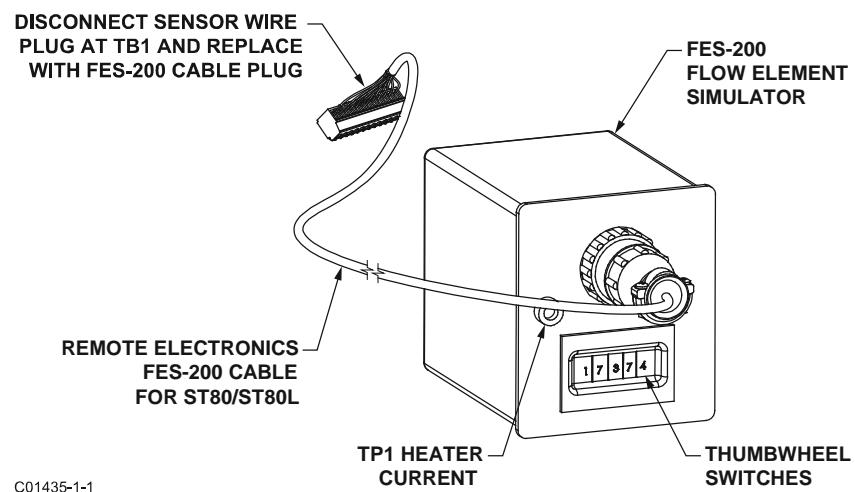
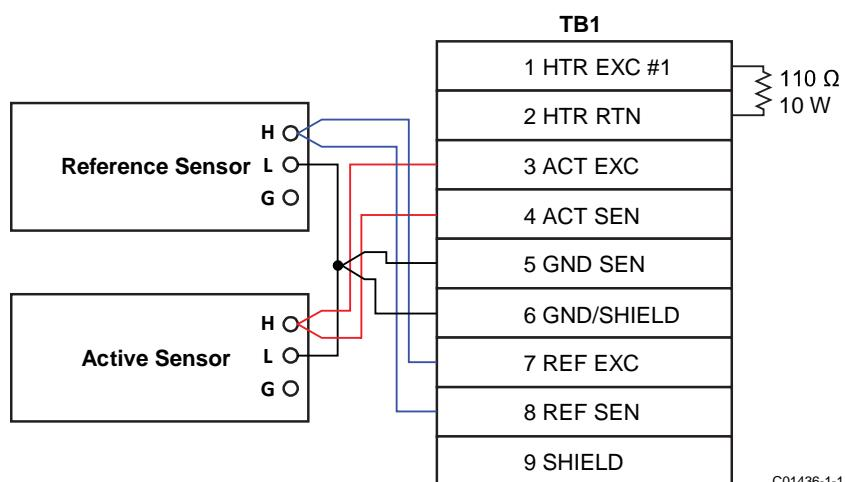

Figure 62 – Connecting FES-200 to ST80/ST80L Transmitter
Figure 63 – ST80/ST80L Decade Box Wiring
3. Disconnect a flow element sensor from the ST80/ST80L transmitter (TB1) and connect the FES-200 cable connector in its place. See Figure 62. Precision decade boxes can be used in place of the FES-200. See Figure 63 for decade box wiring.